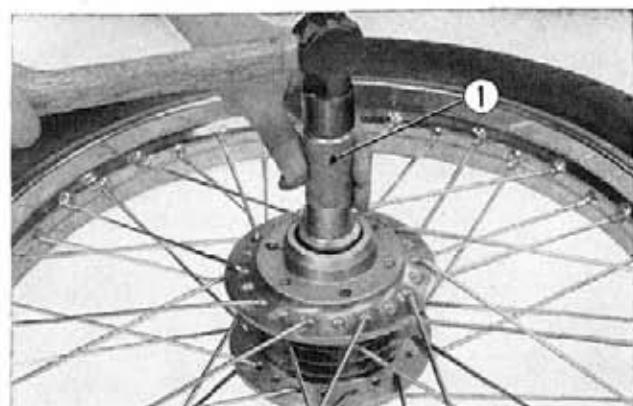

Fig. 13-9 ① Bearing driver
② Gear box retainer
2. Drive the wheel bearing into the wheel using a bearing driver (Tool No. 07949~3000100). (Fig. 13-9)